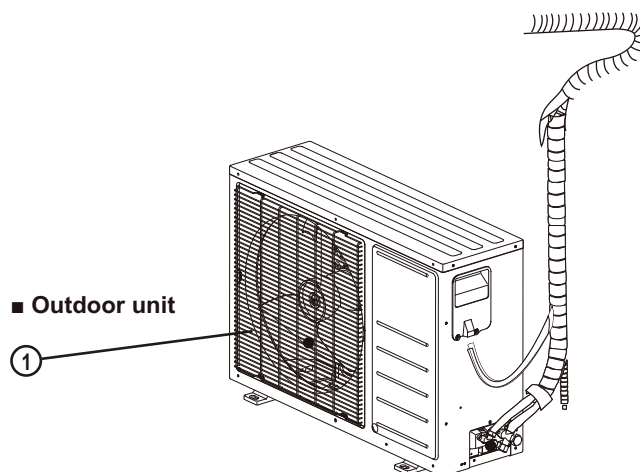

Fig. 3 — Outdoor Unit
- Figure 3 is only a sketch. The actual model may differ slightly.